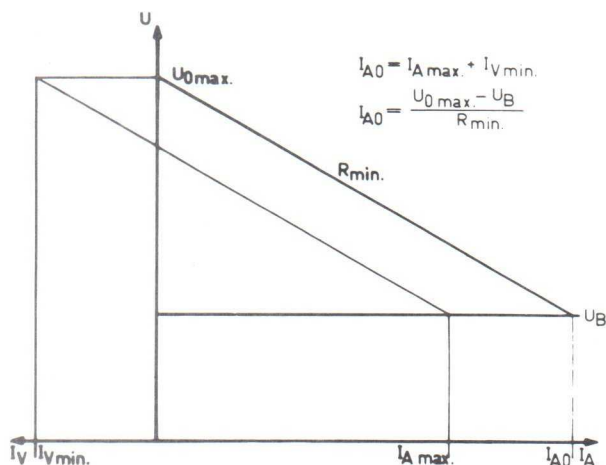

Fig. 12: Starting current.
If the load current or part thereof is delayed (e.g. when the load consists of heated switching tubes), the initial load on the stabilizer tube is higher as shown in figure 12. Usually the permitted initial current is indicated by the tube manufacturer. This current has to be respected when designing the circuit.
d) The maximum initial current must not be exceeded (figure 12).